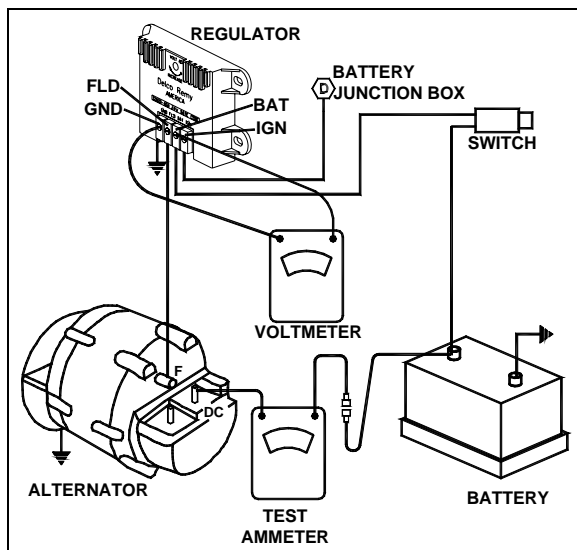

FIGURE 34: REGULATOR VOLTAGE SETTING 06416
1. To check the voltage setting, connect a voltmeter across the "POS" and "NEG" terminals on the regulator, and an ammeter to the "C" terminal on the alternator. Refer to figure 34.